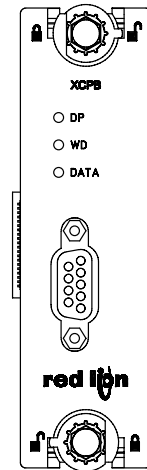

Figure 2
3. Verify that the option card knobs are in the "unlocked" position as shown in Figure 2.